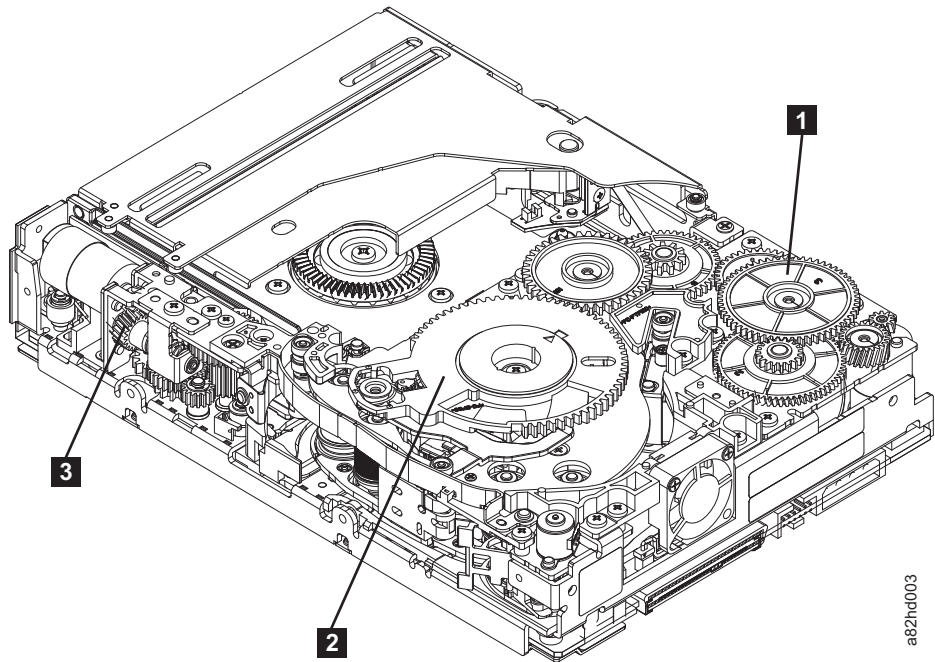

Figure E-12. Drive with cover removed to reveal gear train.
4. Locate the threader intermediate gear (**1** in Figure E-12 on page E-13) near the rear of the drive. You can use your finger to rotate the threader intermediate gear (**1** in Figure E-12 on page E-13) and slowly rotate the threader mechanism gear (**2** in Figure E-12 on page E-13) clockwise. This action draws the tape leader block assembly (LBA) into the cartridge.
- As the leader pin is secured in the cartridge, you hear the leader pin retention spring clips click into place. If you do not hear the click, continue rolling until the threader intermediate gear (**1** in Figure E-12) stops. The LBA is in the correct position.